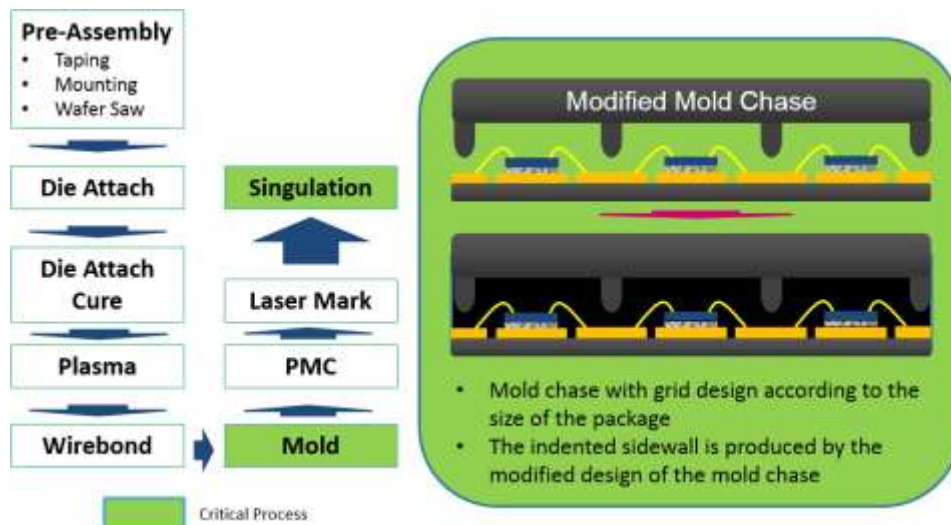

Fig. 3. Specialized mold chase design and process flow.
- A specialized mold chase design and the corresponding assembly process flow highlighted in Fig. 3 paved way for a specialized cutting technique for quad flat no-leads (QFN) leadframe package assembly